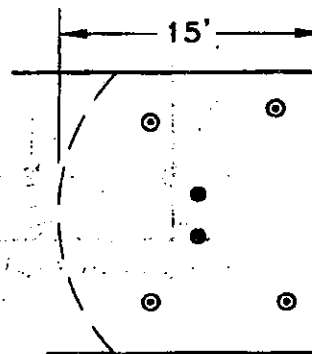

Figure 2-3: 15' Break
If the break were changed to 15', (see *Figure 2-3*) the deep end would, in most probability, still require the same four (4) heads for proper coverage and in some case could even require more heads in the shallow end to cover the larger area.